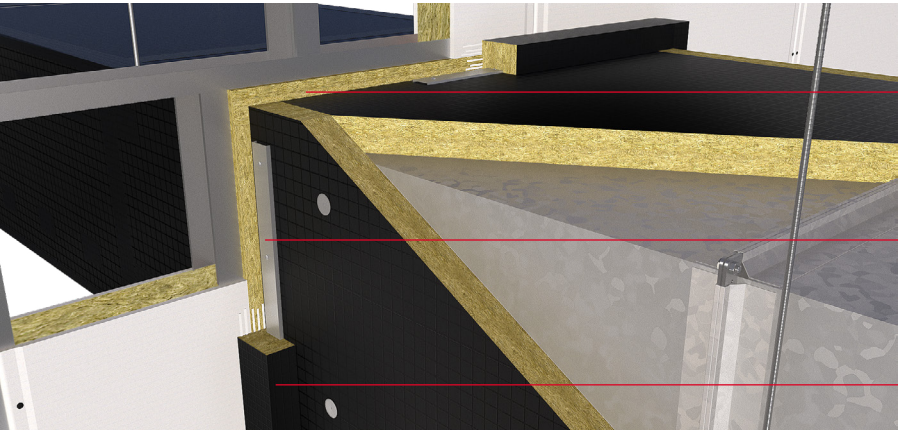

Figure 9
2. Fill the remaining annular space between the DuctRock Slab and supporting structure of the dry wall system with ROCKWOOL RWA45 as shown in Figure 9.
5. Once the u-profiles have been applied, an insulated collar must be installed around the perimeter of the aperture. The collar can be cut from the DuctRock Slab. Fix the collars in place with FirePro Glue, as shown in Figure 9. Use nails to temporarily hold the collars in place whilst the glue cures.